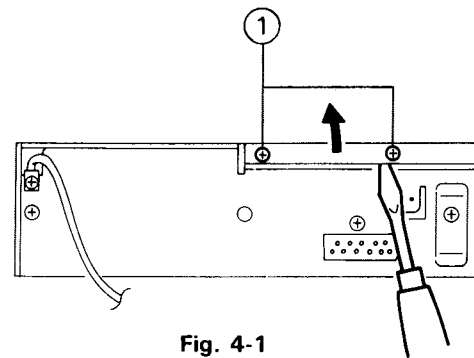

Fig. 4-1
(See Figs. 4-1 ~ 4-3)
1. After turning over the body, remove the two screws (1) retaining the top cover (See Fig. 4-1).
4. After inserting a flat screw driver into the grooves on the top cover and chassis from the back of the body, remove the top cover while raising it in the arrow direction (See Fig. 4-1).